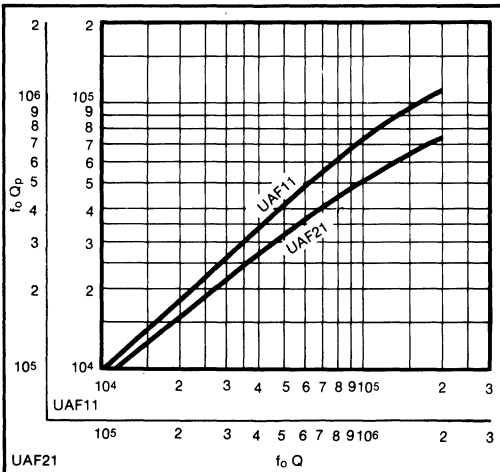

FIGURE 5. Q_p Determination.
2. Calculate the $f_0 Q$ product for the filter. If the product is above 10^4 Hz (or 10^5 for the UAF21), locate the corresponding $f_0 Q_p$ product on the curve in Figure 5. Divide $f_0 Q_p$ by f_0 to obtain Q_p . Use Q_p as indicated in the design equations. For $f_0 Q$ products below 10^4 Hz (or 10^5 for the UAF21), $Q_p = Q$.